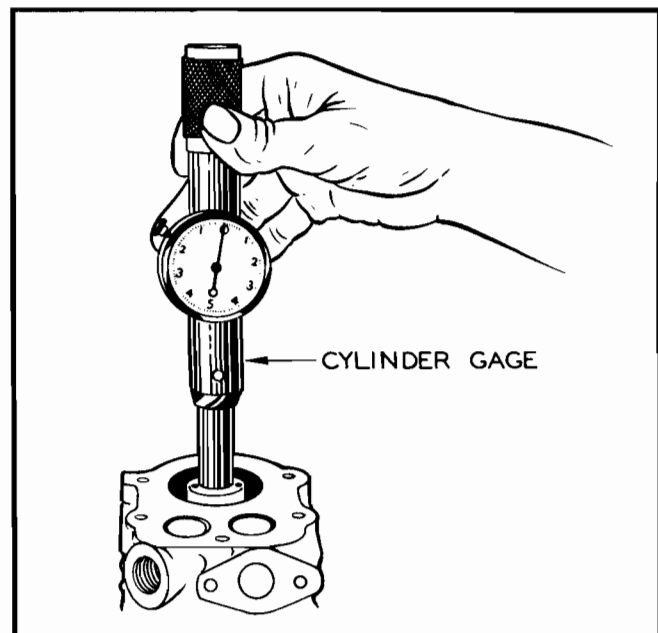

Figure No. 44—Measuring Cylinder Bore for Wear
1. Using a dial gage, measure the cylinder bore for wear. (See Figure No. 44.) If the cylinder block is tapered and out-of-round more than .006 inch, the cylinder should be rebored and an oversize piston installed.
1. Measure the cylinder wear with a dial gage (See Figure No. 44) and rebore cylinder to the nearest available over-size to permit clearing up wear completely.